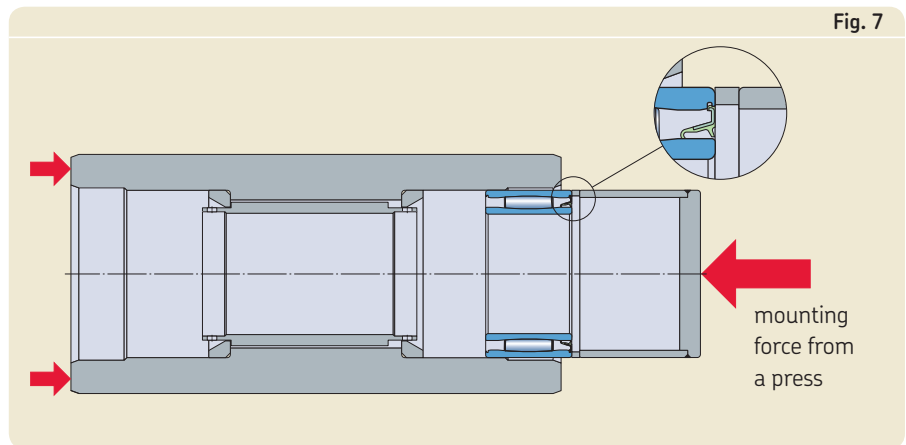

Fig. 7
- Press the bearings into the bearing seat in the roll mantle (→ fig. 7). Force must only be applied to the outer rings.